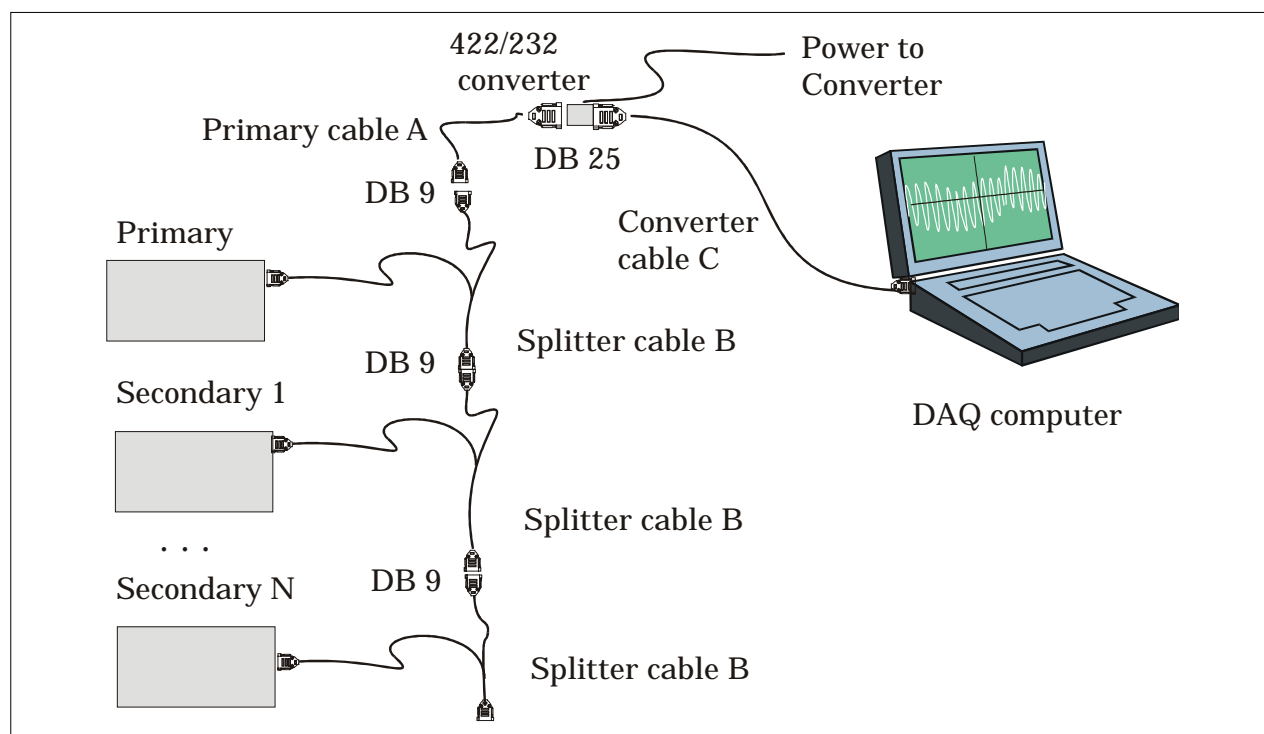

Figure 25 – RS485 Overview
- Multiple systems are “daisy-chained” together as shown in Figure 25.
To use multiple ADVFields/Hydras in RS485 mode, you need to connect the systems together using the cables provided (Figure 25).